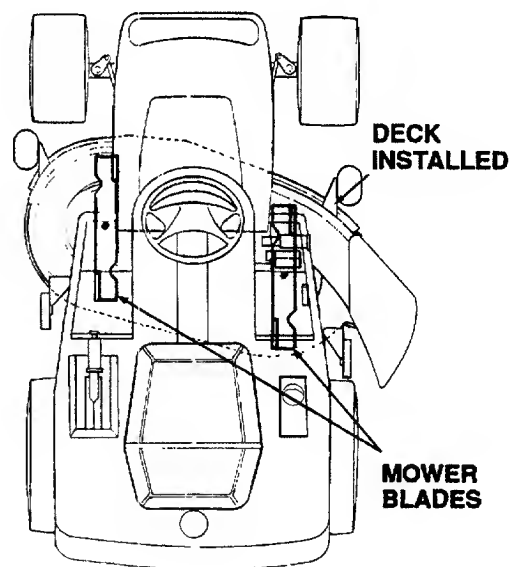

Figure 35
2. Position the mower blades so the ends of each blade point to the front and the rear of the tractor (Refer to Figure 35).